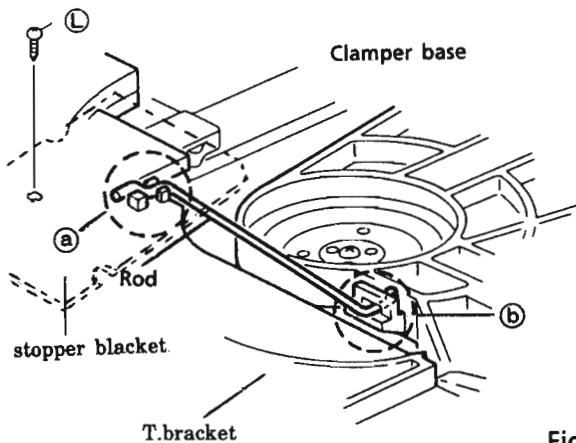

Fig. 20
2. Remove the screw ① holding the stopper bracket.(See Fig.20) --- (U.S.A and CANADA only)
3. Remove the rod from both ends' hooks which are secured on T.Bracket ③ and clamber base④.(See Fig. 20)